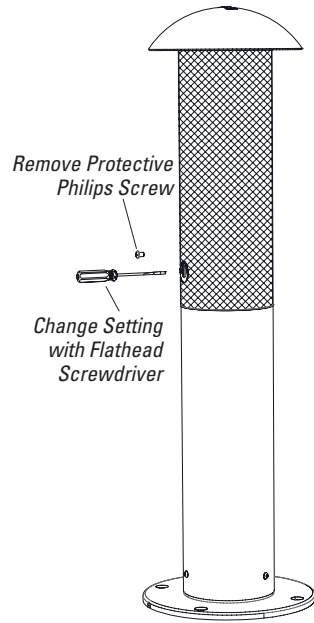

Figure 29
3. The L41XC speaker ships with the transformer set to 60W. If you want to use a lower power setting use a Philips head screwdriver to remove the protective Philips screw as shown in Figure 29.